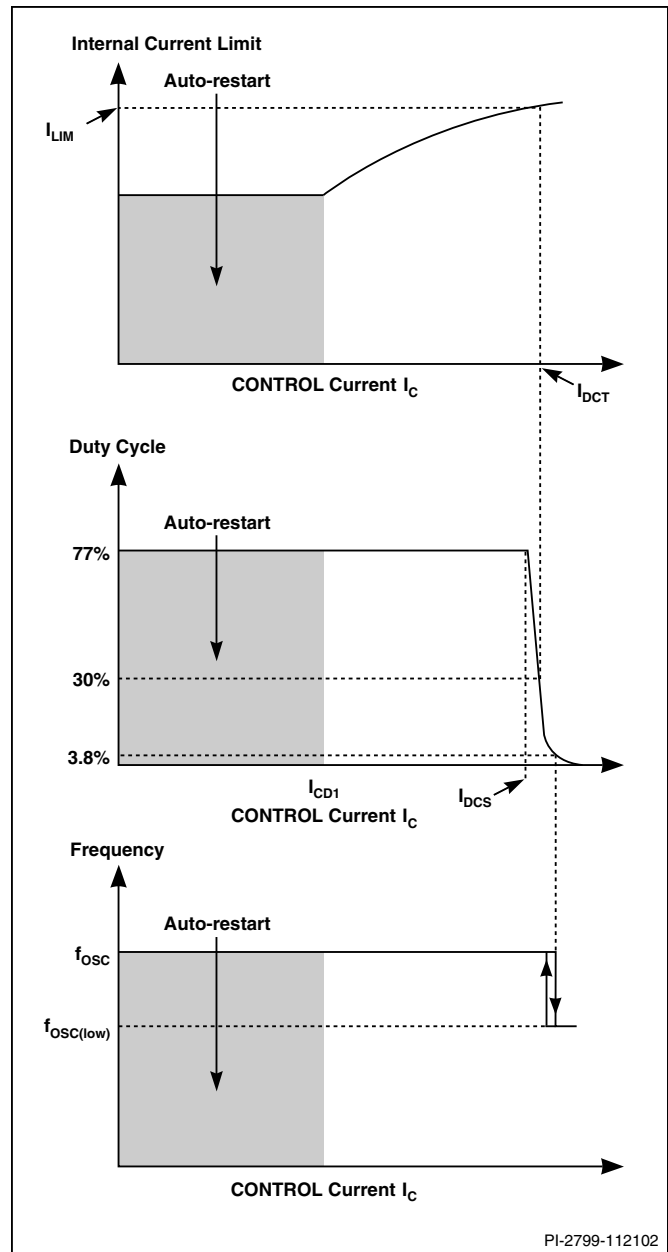
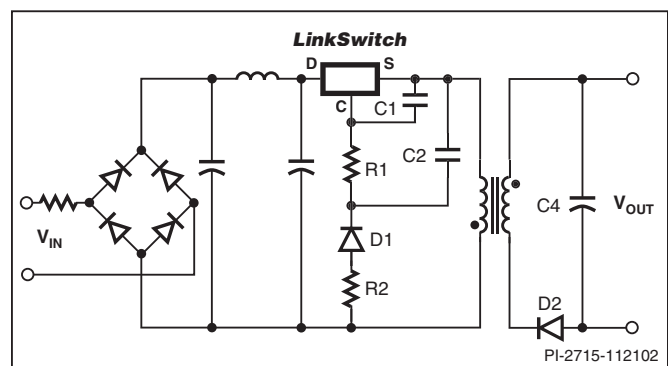
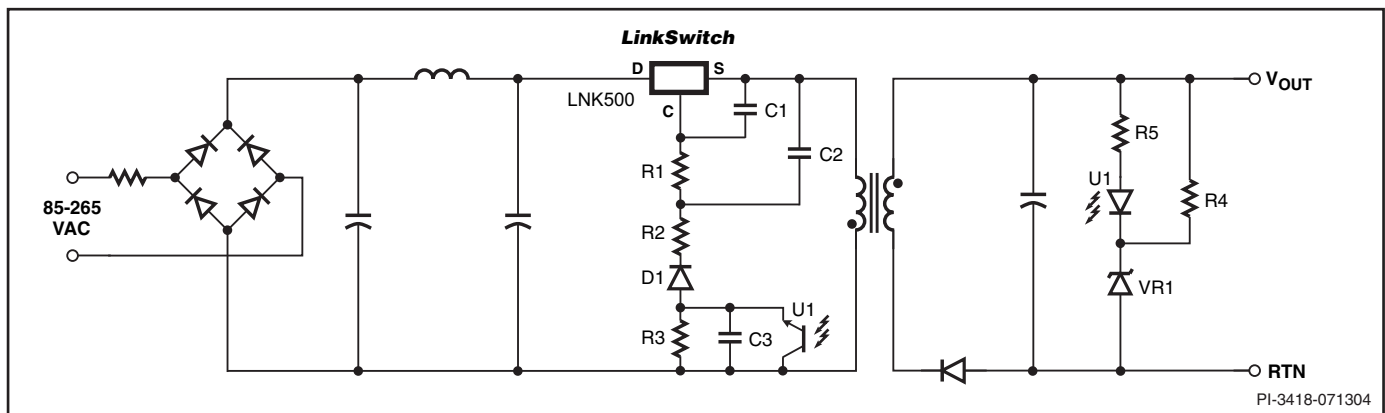

Figure 4. CONTROL Characteristics.
Figure 5. Power Supply Outline Schematic.
Figure 6. Power Supply Outline Schematic with Optocoupler Feedback.
The duty cycle, current limit and operating frequency relationships with CONTROL pin current are shown in Figure 4. Figure 5 shows a typical power supply outline schematic which is used below to describe the *LinkSwitch* operation.
During power up, as  $V_{IN}$  is first applied (Figure 5), the CONTROL pin capacitor C1 is charged through a switched high voltage current source connected internally between the DRAIN and CONTROL pins (see Figure 2). When the CONTROL pin voltage reaches approximately 5.6 V relative to the SOURCE pin, the high voltage current source is turned off, the internal control circuitry is activated and the high voltage internal MOSFET starts to switch. At this point, the charge stored on C1 is used to supply the internal consumption of the chip.
As the output voltage, and therefore the reflected voltage across the primary transformer winding ramp up, the feedback CONTROL current  $I_C$  increases. As shown in Figure 4, the internal current limit increases with  $I_C$  and reaches  $I_{LIM}$  when  $I_C$  is equal to  $I_{DCT}$ . The internal current limit vs.  $I_C$  characteristic is designed to provide an approximately constant power supply output current as the power supply output voltage rises.
When  $I_C$  exceeds  $I_{DCS}$ , typically 2 mA (Figure 4), the maximum duty cycle is reduced. At a value of  $I_C$  that depends on power supply input voltage, the duty cycle control limits *LinkSwitch* peak current below the internal current limit value. At this point the power supply transitions from CC to CV operation. With minimum input voltage in a typical universal input design, this transition occurs at approximately 30% duty cycle. Resistor R1 (Figure 5) is therefore initially selected to conduct a value of  $I_C$  approximately equal to  $I_{DCT}$  when  $V_{OUT}$  is at the desired value at the minimum power supply input voltage. The final choice of R1 is made when the rest of the circuit design is complete. When the duty cycle drops below approximately 4%, the frequency is reduced, which reduces energy consumption under light load conditions.
Figure 6 shows a typical power supply outline schematic using *LinkSwitch* with optocoupler feedback to improve output voltage regulation. On the primary side, the schematic differs
from Figure 5 by the addition of R3, C3 and optocoupler U1. R3 forms a potential divider with R1 to limit the U1 collector emitter voltage.
The feedback configuration in Figure 6 is simply a resistive divider made up of R1 and R3 with D1, R2, C1 and C2 rectifying, filtering and smoothing the primary winding voltage signal. The optocoupler therefore effectively adjusts the resistor divider ratio to control the DC voltage across R1 and therefore, the feedback current received by the *LinkSwitch* CONTROL pin.
When the power supply operates in the constant current (CC) region, for example when charging a battery, the output voltage is below the voltage feedback threshold defined by U1 and VR1 and the optocoupler is fully off. In this region, the circuit behaves exactly as previously described with reference to Figure 5 where the reflected voltage increases with increasing output voltage and the *LinkSwitch* internal current limit is adjusted to provide an approximate CC output characteristic. Note that for similar output characteristics in the CC region, the value of R1 in Figure 5 will be equal to the value of R1 + R3 in Figure 6.
When the output reaches the voltage feedback threshold set by U1 and VR1, the optocoupler turns on. Any further increase in the power supply output voltage results in the U1 transistor current increasing, which increases the percentage of the reflected voltage appearing across R1. The resulting increase in the *LinkSwitch* CONTROL current reduces the duty cycle according to Figure 4 and therefore, maintains the output voltage regulation.
The extent to which R3 can be increased is limited by opto transistor voltage and dissipation ratings and should be fully tested before finalizing a design. The values of C2 and C3 are less important other than to make sure they are large enough to have very little influence on the impedance of the voltage division circuit set up by R1, R3 and U1 at the switching frequency. Normally, the values of C2 and C3 in Figure 6 are chosen equal to the value of C2 in Figure 5, though the voltage rating may be reduced depending on the relative values of R1 and R2 discussed above. See Applications section for typical values of components.
The output voltage load variation can be improved across the whole load range by adding an optocoupler and secondary reference (Figure 6). The secondary reference is designed to only provide feedback above the normal peak power point voltage to maintain the correct constant current characteristic.
The schematic shown in Figure 5 outlines the key components needed for a *LinkSwitch* supply.
Since the SOURCE pins in a *LinkSwitch* supply are switching nodes, the copper area connected to SOURCE together with C1, C2 and R1 (Figure 5) should be minimized, within the thermal constraints of the design, to reduce EMI coupling.